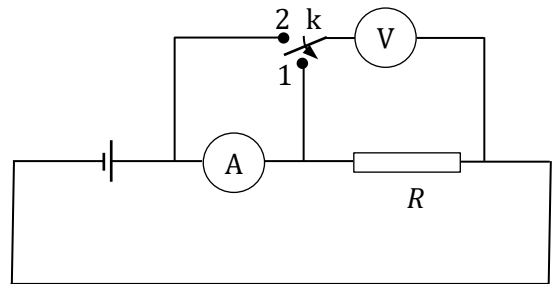
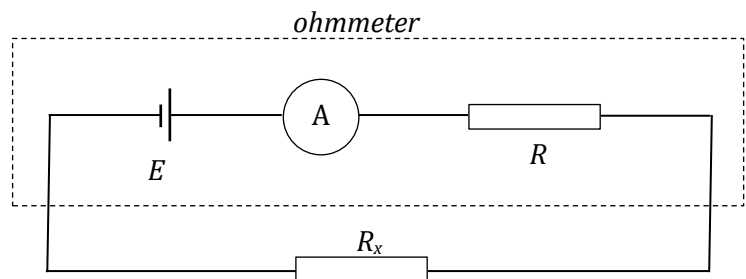

Fig. 1
Fig. 2
**A.** For measuring resistances, a student makes the electric circuit illustrated in Fig. 1. The switch  $k$  can be commuted in positions labeled with 1, respectively 2 in the diagram.  $R$  is the unknown value of the resistance,  $V$  is the voltmeter and  $A$  is the amperemeter. The internal resistance of the voltmeter is  $R_V$  and of the amperemeter is  $R_A$ .
**B.** Using some of the circuit elements illustrated in Fig. 1, the student is assembling their own ohmmeter. The purpose is to measure an unknown resistance  $R_x$  of a resistor. The result is shown in Fig. 2. The e.m.f. of the generator is  $E = 9.00 \text{ V}$  (its internal resistance is neglected) and the internal resistance of the amperemeter is  $R_A = 10.0 \Omega$ . The